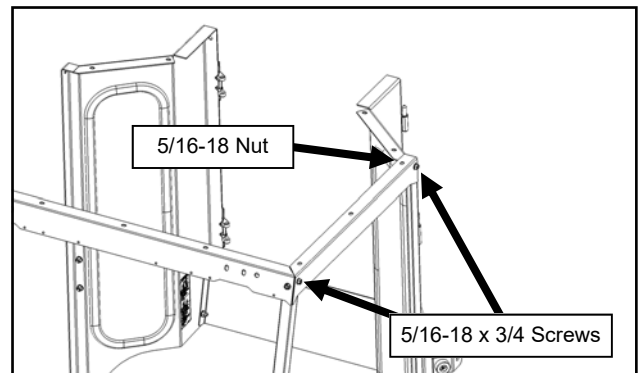

Fig. 10.1 (Install Left Door Header)
- 10.1** Install the left Door Header to the A-pillar and rear leg. See Figure 10.1.